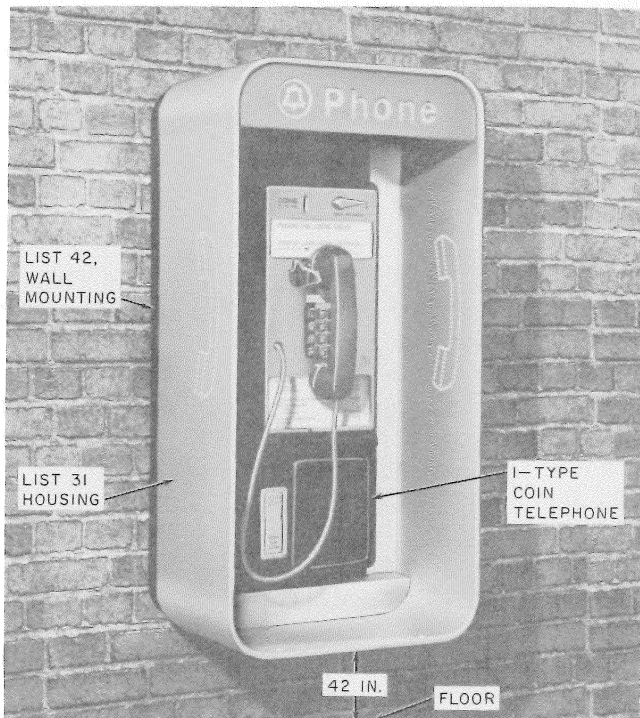

Fig. 4—KS-20842, List 4 (Wall) Telephone Mounting
2.22 When the List 31 housing is installed as a wall unit (Fig. 4), a List 42 wall mounting is required for attaching the housing to the wall mounting. The wall mounting allows electrical service connections to be run from the top or bottom of the mounting. A 123A1A protector